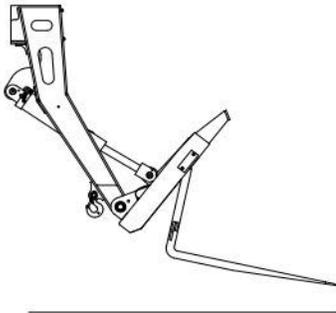

Figure 2-27 Fork Pivoting on the Bar
3. Tilt the attachment forward until the fork pivots on the bar, and no longer resting on the carriage's bottom rail (see Figure 2-27). This prevents binding on the bar, thus aiding its repositioning.